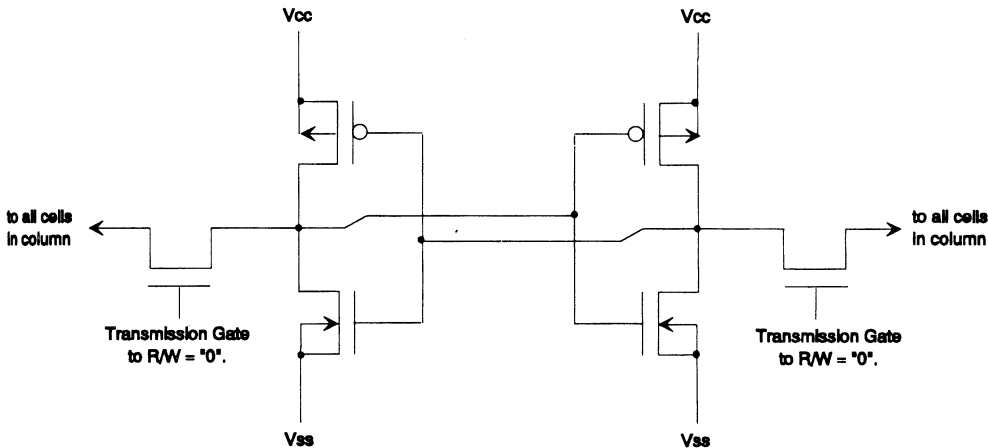

FIGURE 11.20 CMOS RAM memory cell.
**RAM.** RAM may be defined as memory that has both read and write capabilities so that the stored information can be retrieved (read) and changed by applying new information to the cell (write). RAM found on microcontrollers is that of the static type that uses transistor cells connected as flip-flops. A typical six-transistor CMOS RAM cell is shown in Fig. 11.20. It consists of two cross-coupled CMOS inverters to store the data and two transmission gates, which provide the data path into or out of the cell. The most significant characteristic of static memory is that it loses its memory contents once power is removed. After power is removed, and once it is reapplied, static microcontroller RAM locations will revert to their default state of a logic “0”. Because of the number of transistors used to construct a single cell, RAM memory is typically larger per bit than EPROM or ROM memory.